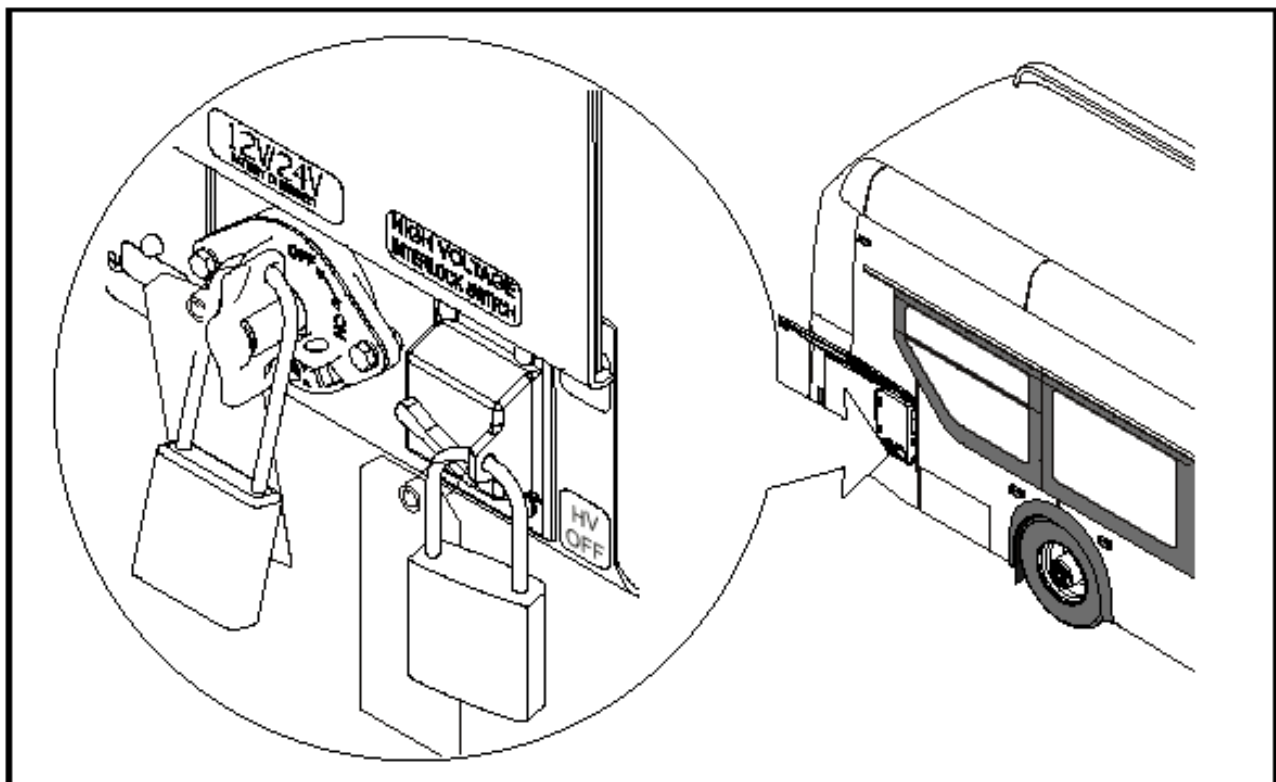

Figure 1: Lockout Tagout location reference.
4. Lock and tag the electrical system of the bus out and retain the key. See Figure 1.